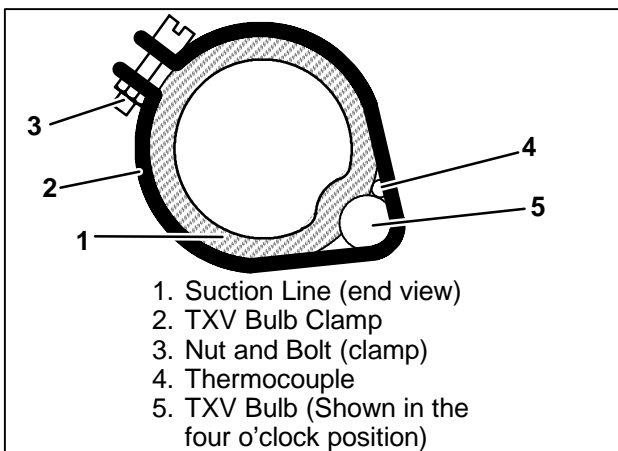

Figure 4-7. Thermostatic Expansion Valve Bulb and Thermocouple Installation
- h. The thermal bulb is installed below the center of the suction line (four or eight o'clock position). This area must be clean to ensure positive bulb contact. Strap thermal bulb to suction line and insulate both with "Presstite." Ensure that retaining straps are tight. (See Figure 4-7)
- e. Place temperature thermocouple in contact with the suction tube and parallel to the TXV bulb, and then secure loosened clamp making sure both bulbs are firmly secured to suction line. (See Figure 4-7) Reinstall insulation around the bulb.